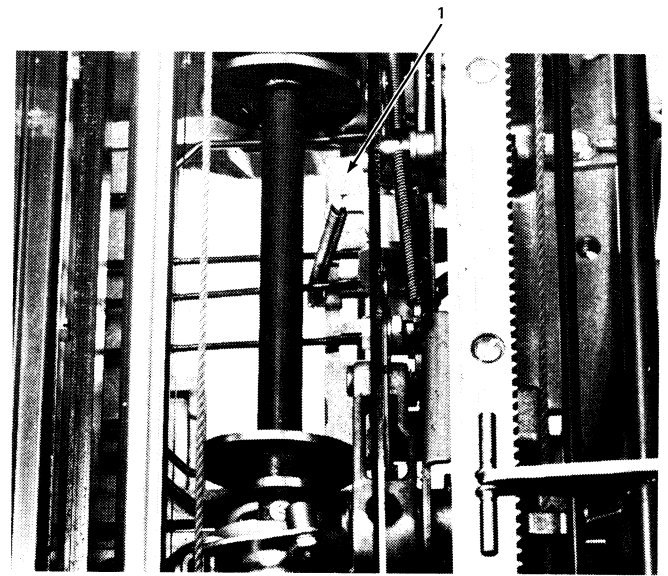
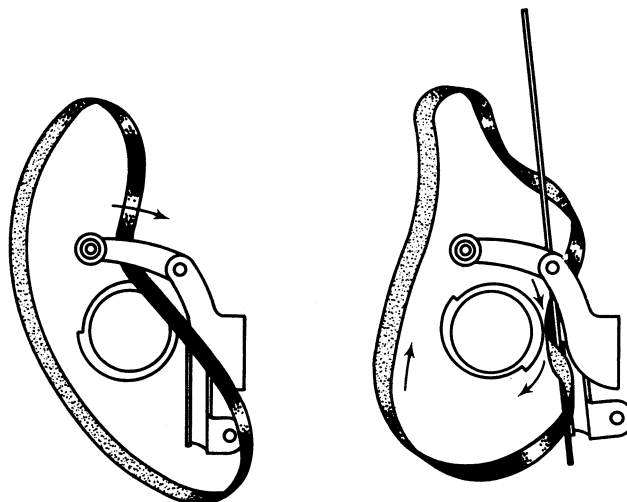

Figure 4-12. Belt Replacement (Top View Showing Positive Bail)
Figure 4-13. Belt Replacement
11. Force the positive bail down with a screwdriver (no. 1, Figure 4-12), making sure all the latches are under the bail. Insert a Bristo wrench through the lower left bearing plate mounting hole, over the top of the bail, to hold it down.
12. Slip the new belt through the bearing plate hole and around the cycle shaft (Figure 4-12). Move the belt along the cycle shaft until it reaches the cycle clutch latch (Figure 4-13). Work the belt between the latch and the cycle clutch sleeve with the aid of a burnishing blade (Figure 4-13).